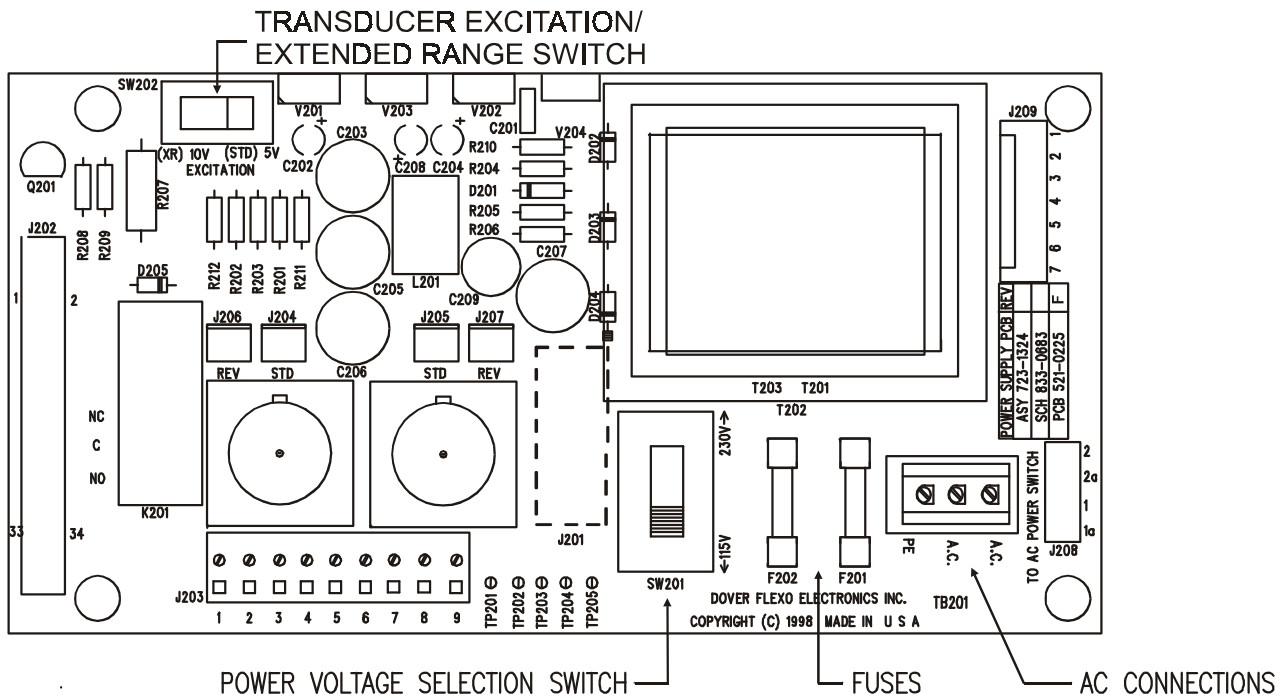

Figure 38 - POWER BOARD
5. Turn on the AC power to the controller and check the power supplies. Refer to Figure 38, the Power Board. Verify the following voltages using the test points listed.